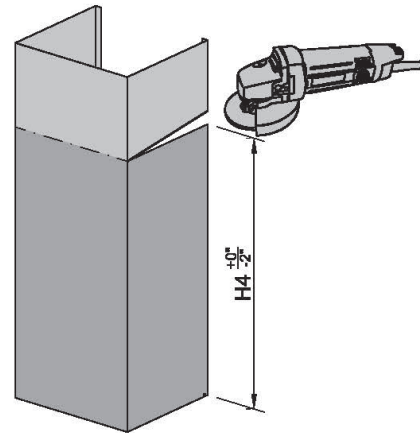

Figure 7
Install the two part chimneys on top of the hood. Slide the inside section up until the vertical vent slots are visible, attach top portion to mounting bracket with screws. Secure lower chimney portion to the hood with screws provided. (Figure 7)
- 8 Cut chimney to height needed. (Figure 7)